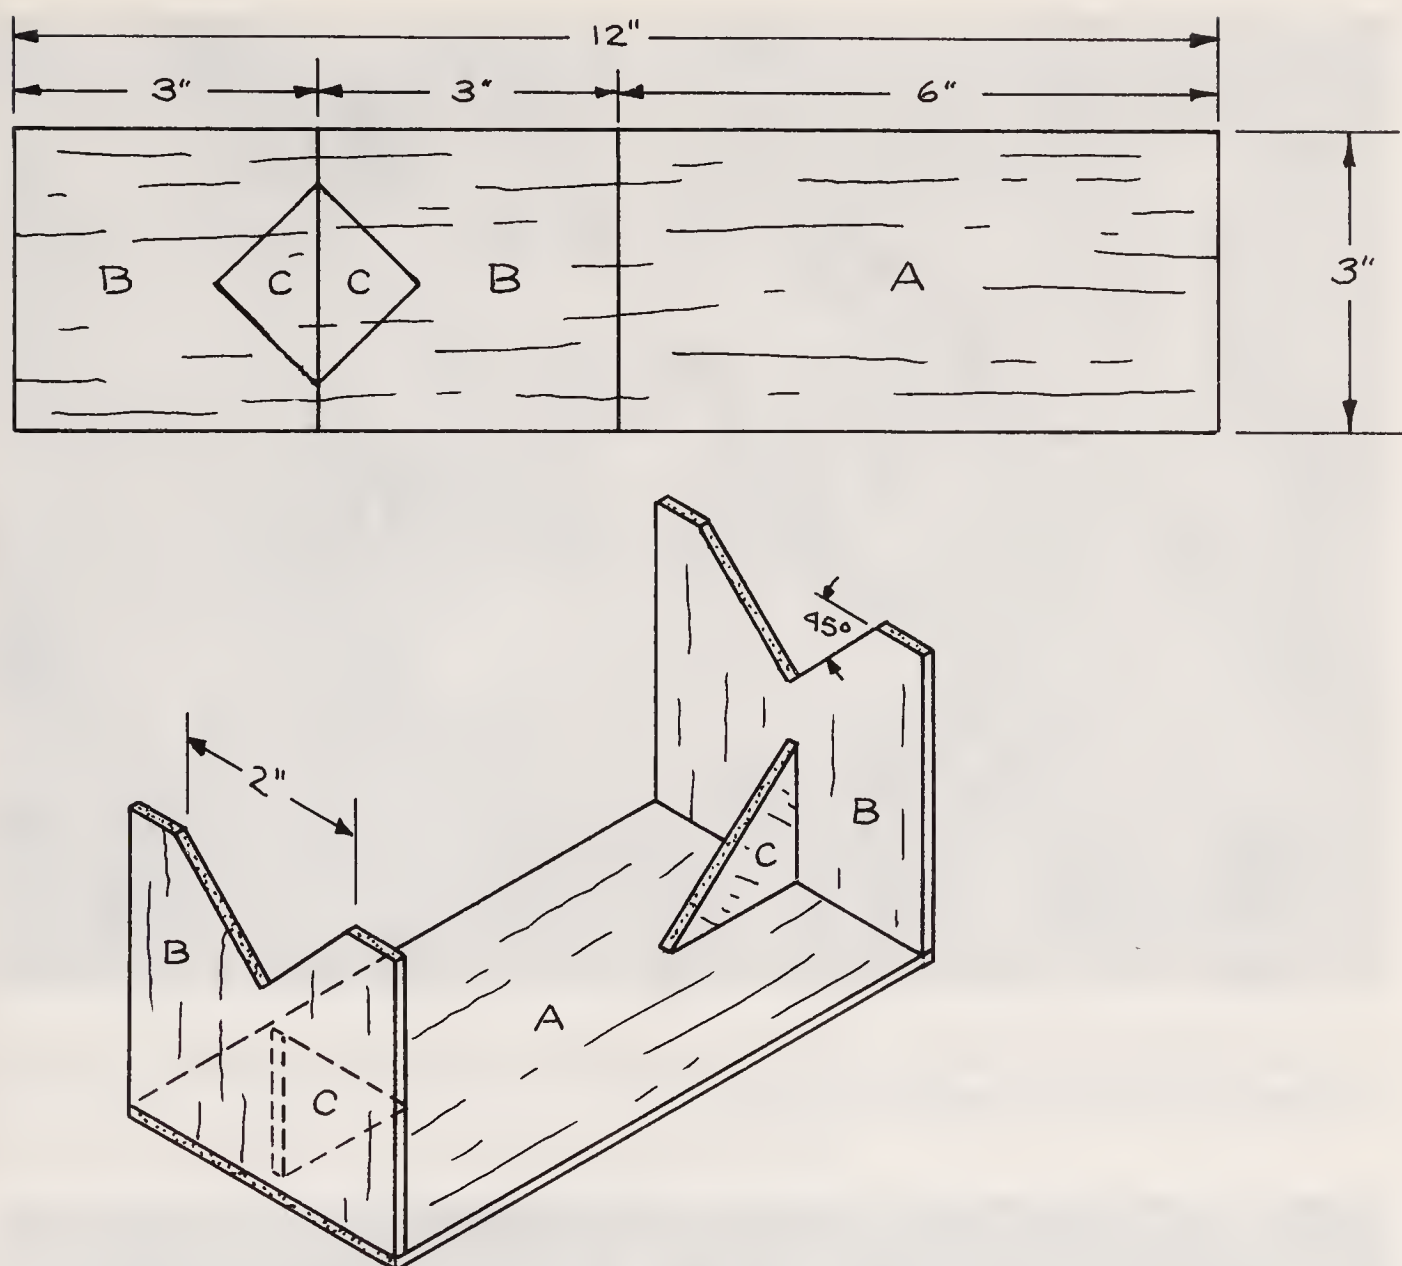

Figure 3-5 A cradle stand to hold model rockets in a horizontal position while working on them can be cut from sheet balsa or stiff cardboard as shown.
*The cradle stand*—How do you set a model rocket down on the workbench while you're working on it? Answer: Do as the NASA sounding rocket people do and use a cradle. A typical cradle that can be cut from balsa sheet or from Bristol board or other stiff cardboard is shown in Figure 3-5. I started using cradles like this in 1957, copying them from the ones we were using
for the full-sized Aerobee sounding rockets at White Sands, New Mexico, where I was then working. If you have a model that is shorter or longer than the cradle I've shown in Figure 3-5, you can make a shorter or longer cradle. Or you can make it bigger for bigger models. I have a series of cradles ranging from 3 inches to 12 inches long. Sometimes, I paint them if they're to be used to display a model. You'll find that a cradle is one of the handiest fixtures in the shop.